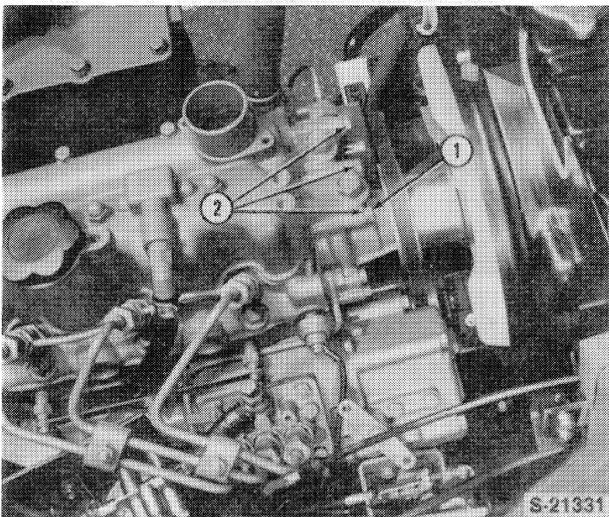

Figure 24
9. Remove the water pump mounting bolts (2) and remove the water pump and fan as an assembly, Figure 24.